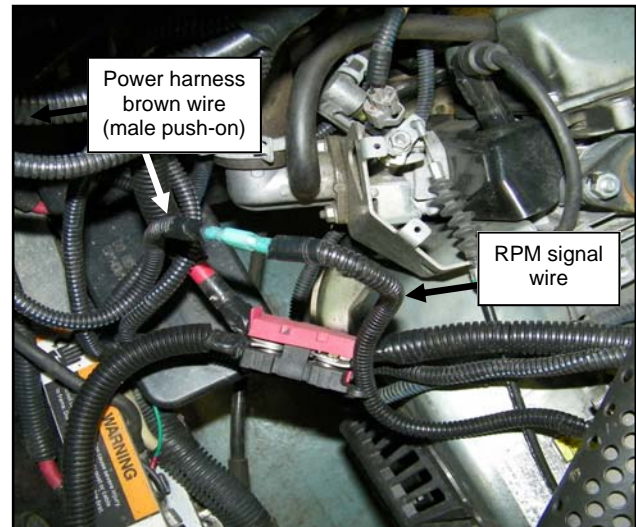

Fig. 2.7 (Connect RPM Signal Harness to Power)
- 2.7** Connect the female push-on terminal from the RPM signal wire harness to the male terminal on the brown wire from the power harness. Figure 2.7.